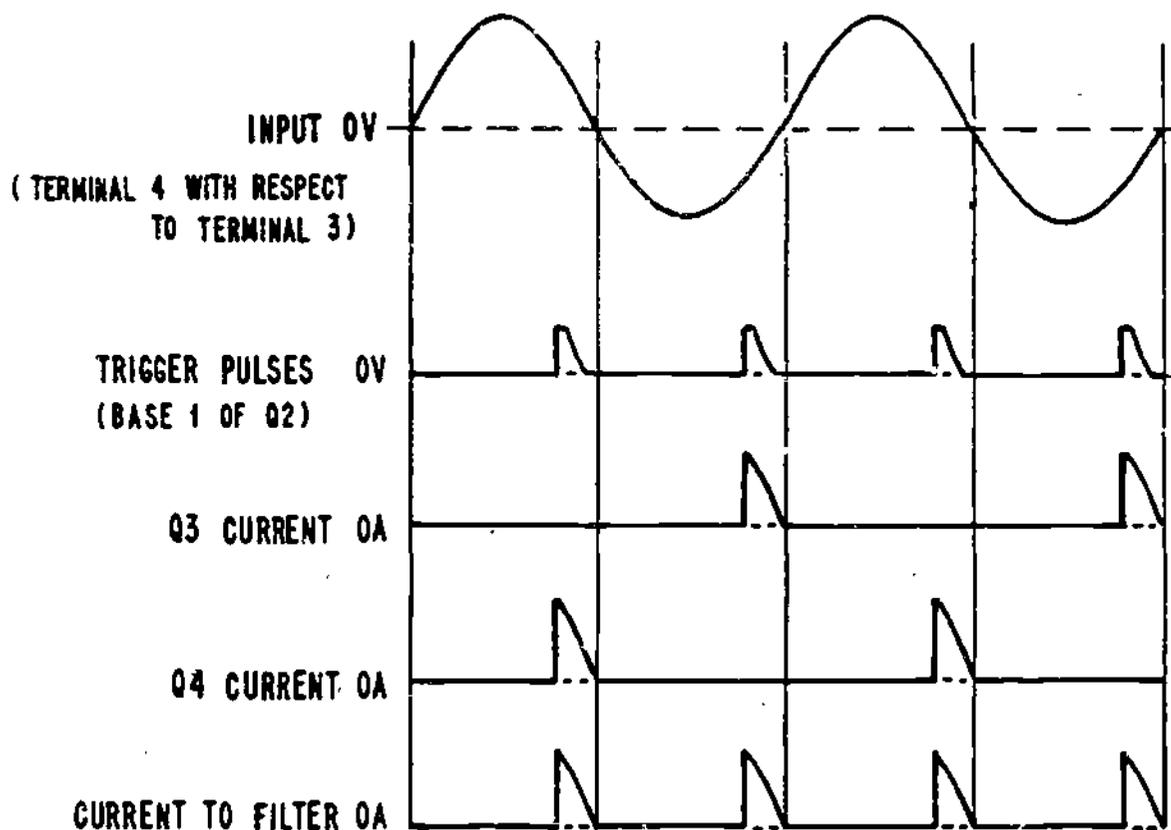

Figure 8
- (20) The waveforms shown in Figure 8 indicate what happens when the load decreases or the input voltage increases.